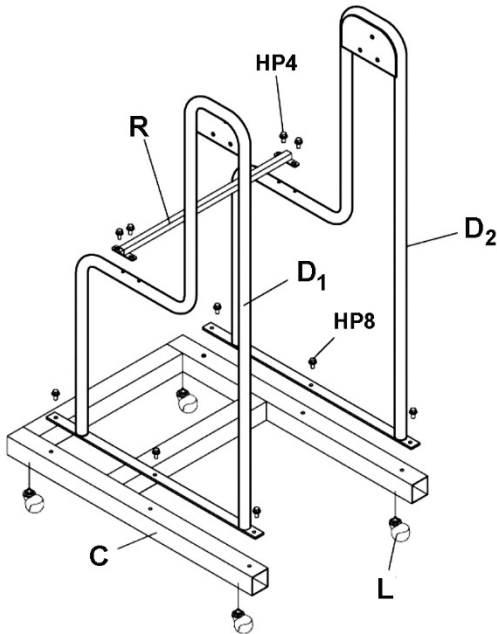

Figure 3
1. Install four casters (L) to base (C). See Figure 3.
2. Install left and right stands (D1, D2) to base (C) with flange head screws (HP8).
3. Install stand support (R) to base (C) with flange head screws (HP4).